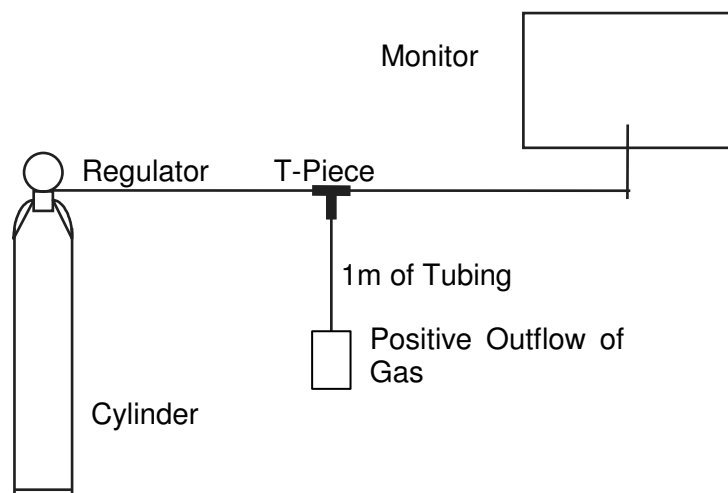

Figure 20: Connecting the calibration gas to the Guardian NGDC
- 15 i) To connect gas to the Guardian NGDC, supply the gas to the instrument via a pipe with a T-Piece and a one metre pipe running off and venting to atmosphere. (See Figure 20)